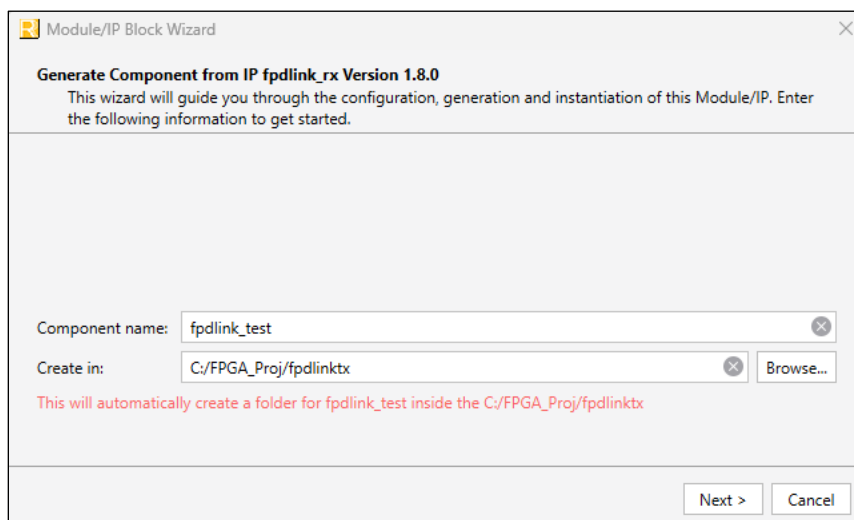

Figure 6.1. Module/IP Block Wizard
- Click **Finish**. All generated files are placed in the directory specified by the **Component name** and **Create in** fields shown in Figure 6.1.